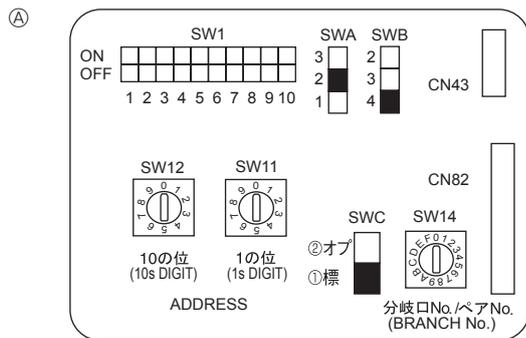

Fig. 5-4
5.5. Setting addresses (Fig. 5-4)
- ① How to set addresses
- ② How to set branch numbers SW14
- (A) Address board
5.6. Switch setting for high ceiling or at the time of changing the number of air outlets (Fig. 5-4)
5.7. Sensing room temperature with the built-in sensor in a remote controller (Fig. 5-4)